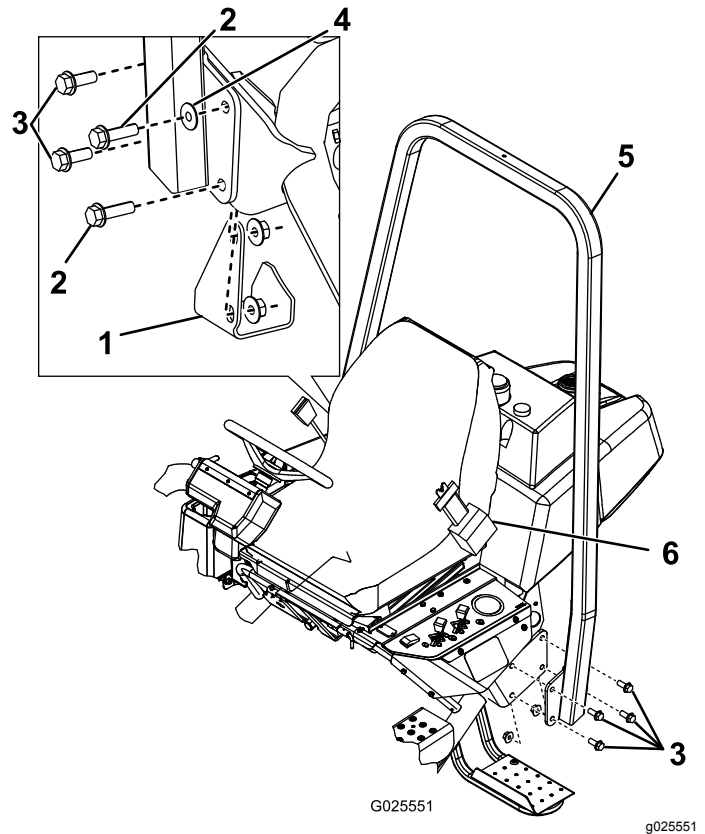

Figure 6
- Lower the ROPS frame (Figure 6) onto the mounting brackets, aligning the mounting holes.
- Secure the left side of the roll bar to the mounting bracket with 4 bolts (1/2 x 1.5 inch) and locknuts (Figure 6). Torque the fasteners to 91 to 115 N-m (67 to 85 ft-lb).
- Secure the right side of the roll bar and the previously removed jack pad to the mounting bracket with 2 bolts (1/2 x 1.5 inch), 2 bolts (1/2 x 1.75 inch), 1 washer, and locknuts as illustrated in Figure 6. Torque the fasteners to 91 to 115 N-m (67 to 85 ft-lb).
**Important:** Ensure that you install the washer in the correct location as illustrated in Figure 6.